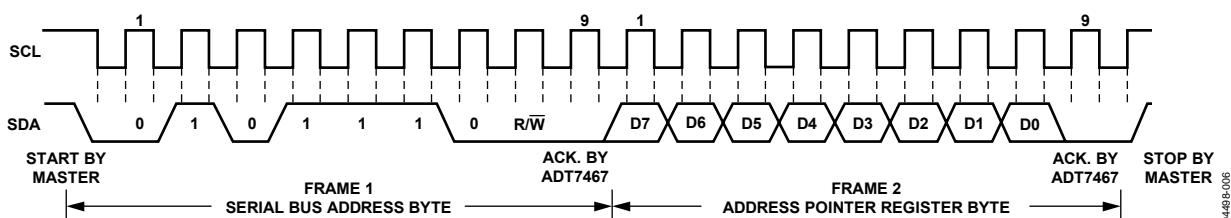
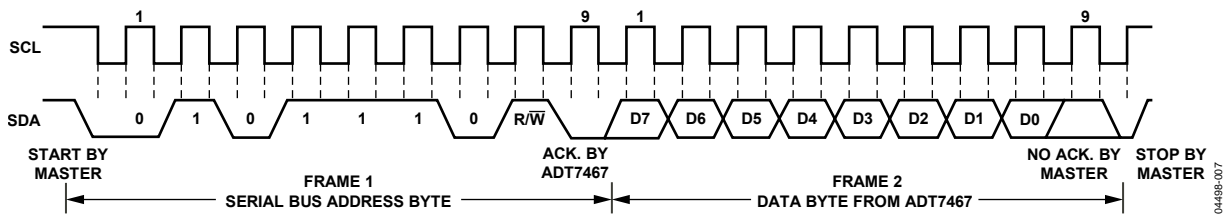

Figure 17. Writing to the Address Pointer Register Only
Figure 18. Reading Data from a Previously Selected Register
- If the address pointer register value of the ADT7467 is unknown or not the desired value, it must be set to the correct value before data can be read from the desired data register. This is achieved by writing a data byte containing the register address to the ADT7467. This is shown in Figure 17. A read operation is then performed consisting of the serial bus address and the $\overline{R/W}$ bit set to 1, followed by the data byte read from the data register. This is shown in Figure 18.
- If the address pointer register is known to be at the desired address, data can be read from the corresponding data register without first writing to the address pointer register, as shown in Figure 18.